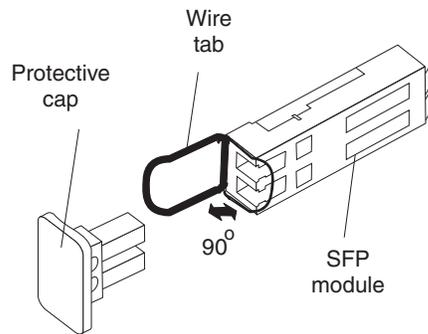

Figure 81. Unlocking the SFP module latch - wire variety
- For SFP modules that contain wire tabs, unlock the SFP module latch by pulling the wire latch outward 90°, as shown in Figure 81 on page 113.